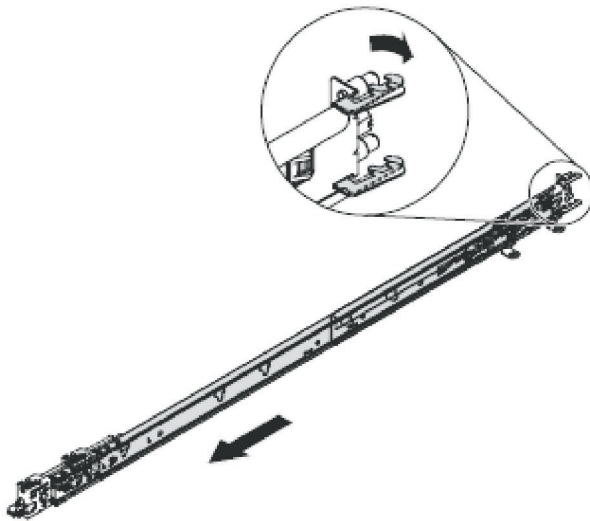

Figure 47. Opening the rear slide-rail hooks
2. Open the rear-slide-rail hooks, as shown in Figure 47.